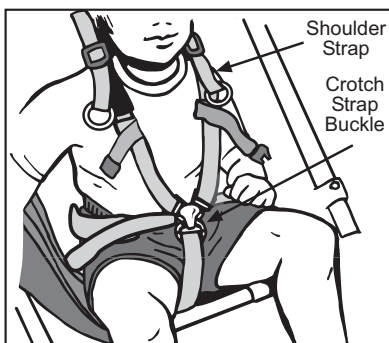
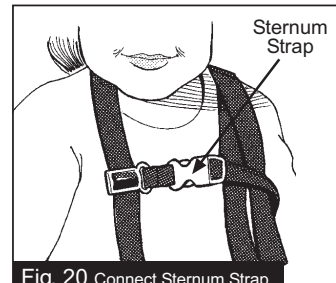

Fig. 18 Place straps over shoulders and secure to buckle.
Fig. 20 Connect Sternum Strap
11. SEAT SAFETY HARNESS: Set parking brake before placing child in stroller. To secure your child in the seat, put one shoulder strap over each shoulder and snap the male buckle into the female receiver on the crotch strap (Fig. 18). Adjust shoulder straps to be snug and secure (Fig. 19). Connect and adjust the sternum strap (red), see Fig. 20.